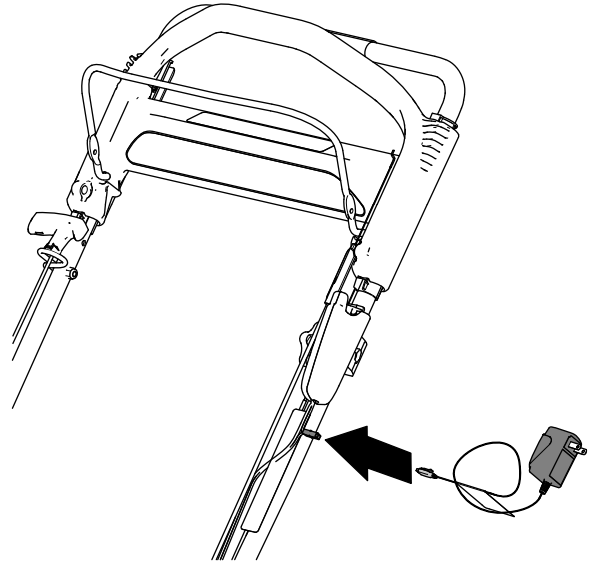

Figure 41
1. Connect the charger to the wire harness located below the electric-start button (Figure 41).